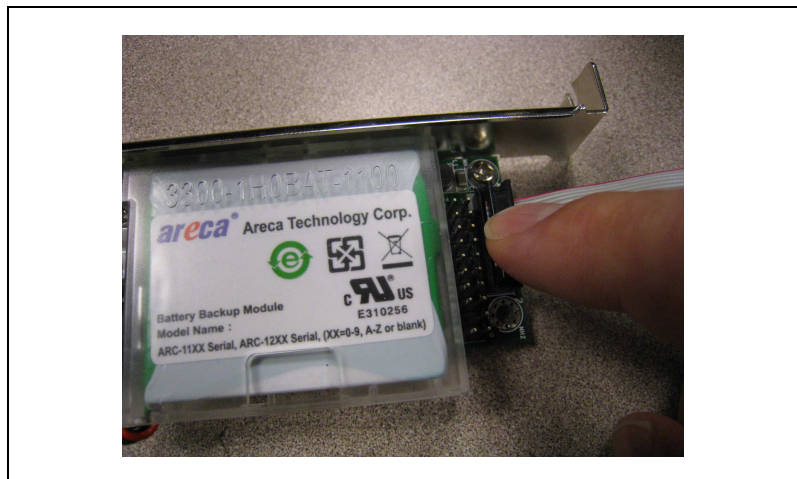

Figure 4. Inserting the Ribbon Cable into the Battery Pack Accessory
- Insert one end of the ribbon cable included with the battery pack accessory kit into the 12-pin connector labeled **J1** on the battery pack card, as shown in Figure 4.